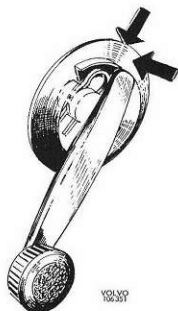

Fig. 8-12. Removing winding handle
2. Remove the window winding handle by pressing in the washer towards the door upholstery and then towards the handle in the same direction as the handle as shown in Fig. 8-12. This releases the spring clip and the winding handle can be taken off.
When fitting, make sure that the spring clip is fitted so that its open end faces towards the winding handle as shown in Fig. 8-12.